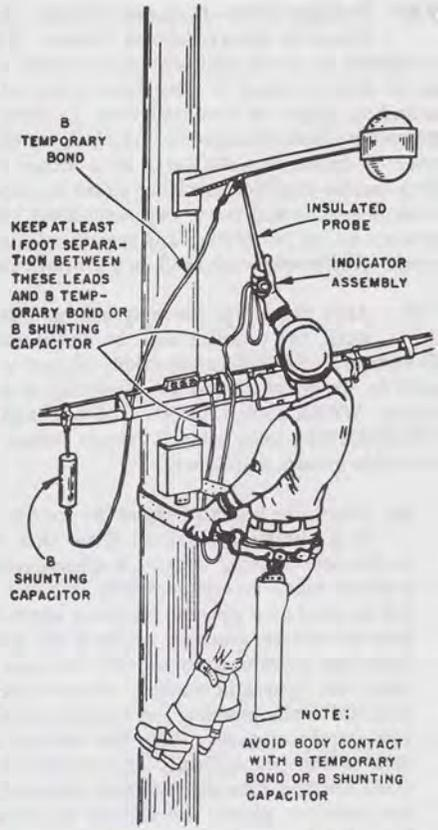

Fig. 12—Use of B-Shunting Capacitor
**8.02 Use of B-Shunting Capacitor**—If a foreign voltage is detected when performing the test described in 8.01, make a second test wearing insulating gloves with the aid of a B-Shunting Capacitor as follows (Fig. 12):